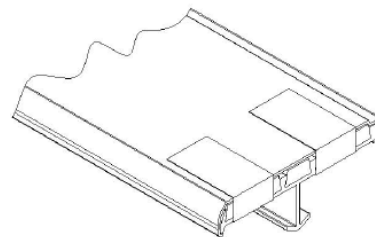

Figure 2
2. Tape guard ends with painters' tape to prevent concrete from seeping. See Figure 2.